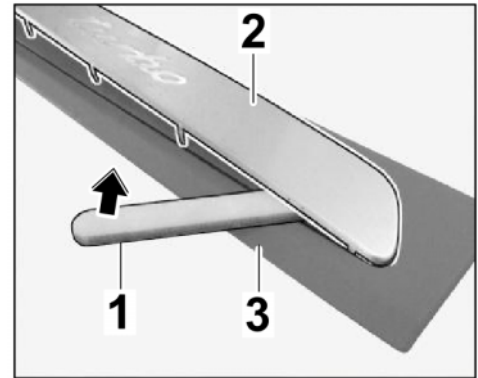

Figure 20
3.1.2 Carefully lever off the standard door entry guard from the (inner) door sill trim using a POM (plastic) wedge (⇒ *Figure 20*).